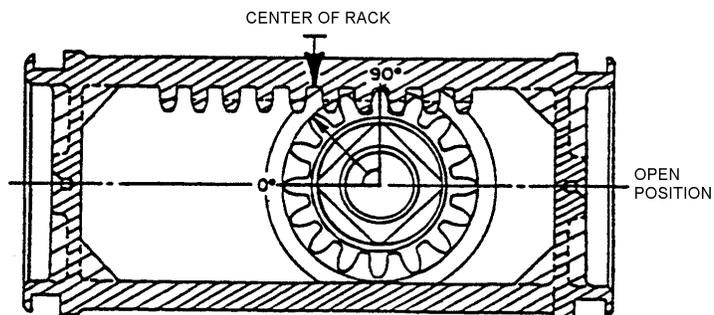

FIGURE 1: PISTON GEAR/RACK AND TORQUE PLUG ALIGNMENT FOR 301D-SRXX-M3HW
- 10.8 **TORQUE PLUG ALIGNMENT AND LUBRICATION.** (Refer to Figure 1.) Coat all of the torque plug gear teeth with lubricant except for one tooth that corresponds with the centerline of one of the flats on top of the torque plug. Figure I shows one face of torque plug is parallel to actuator centerline.
- 10.9 Pick up housing, containing the piston and gear rack, and set it down over the torque plug (1-20). Engage the unlubricated gear tooth on the torque plug with the unlubricated space on the piston and gear rack. Again, refer to Figure 1 (mid-stroke position) for piston/torque plug alignment.